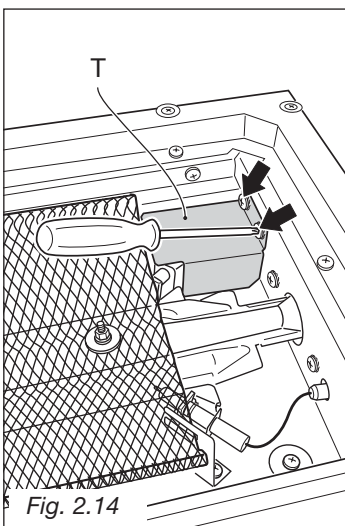

Fig. 2.14
- Unscrew the no. 2 (two) screws and remove the thermocouple protection "T" (fig. 2.14).